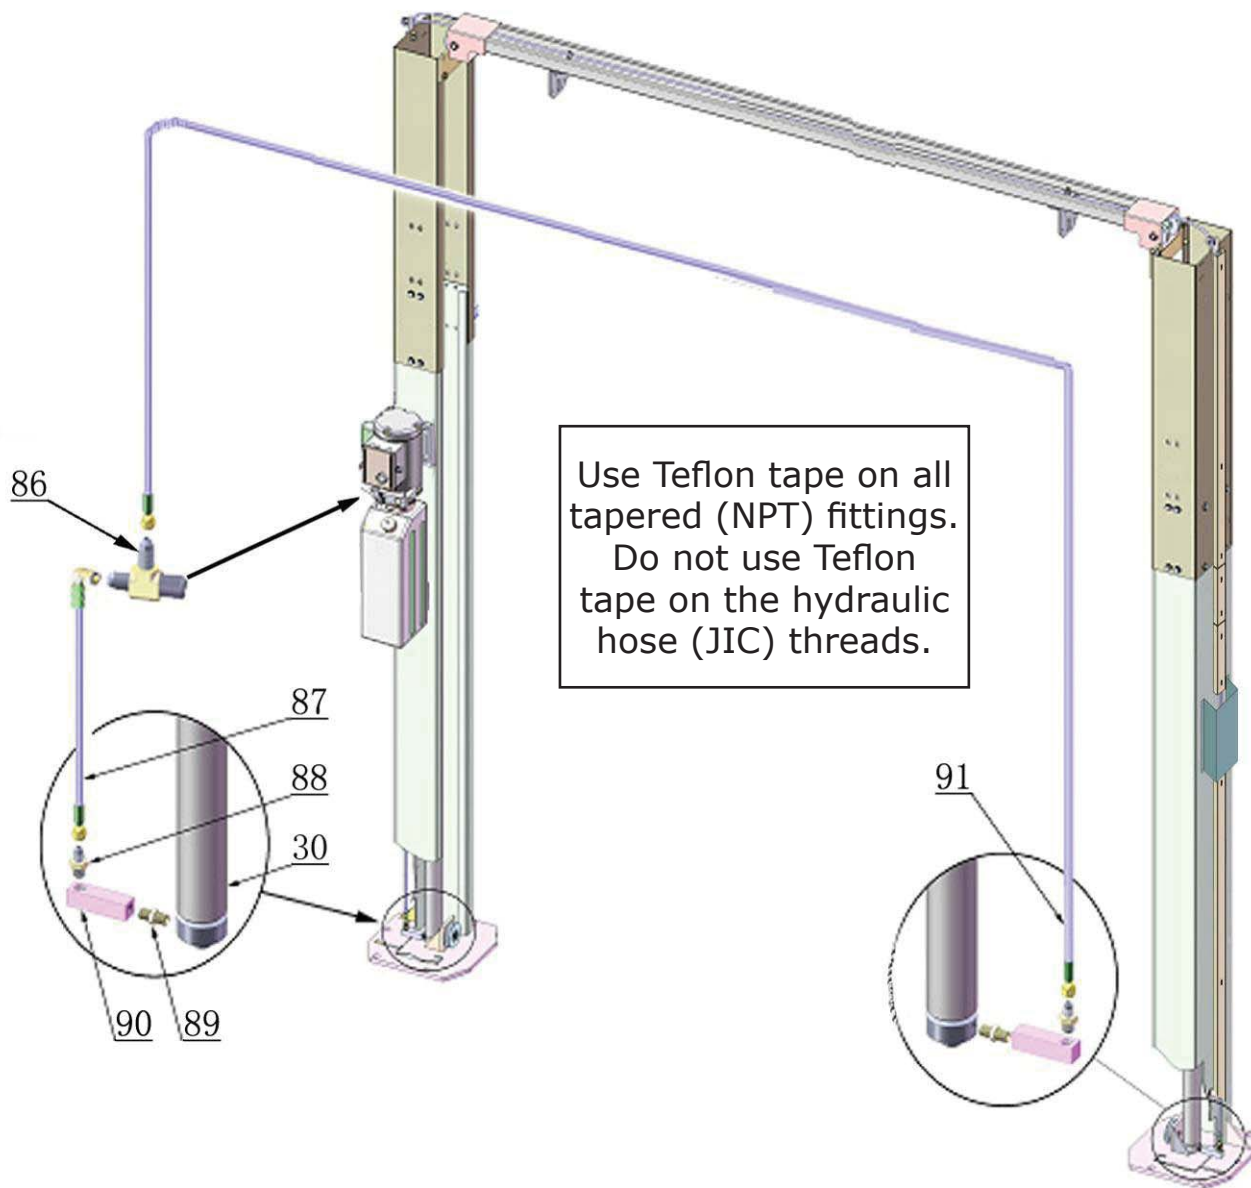

Fig. 24
L. Install Hydraulic Power Unit And Oil Hose Assembly (See Fig. 24)